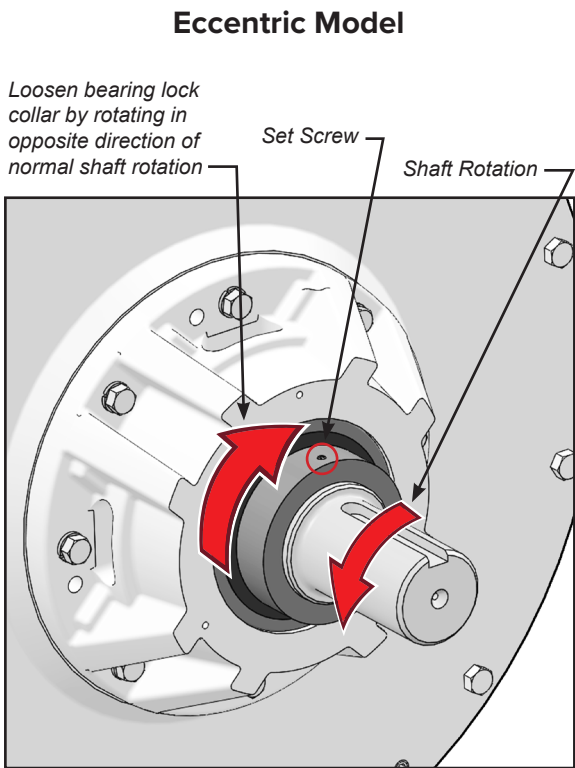
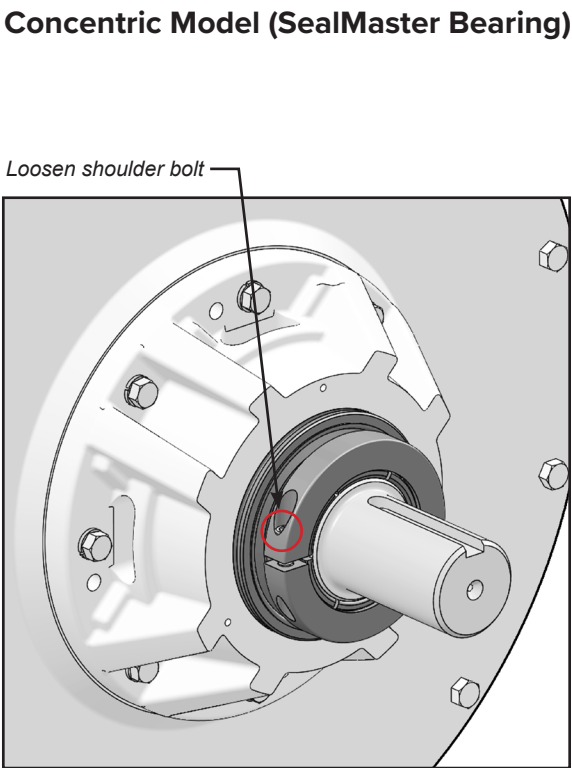

FIGURE 8
FIGURE 9
- 5. Loosen bearing lock collar set screw (Figure 8); *shoulder bolt for VJX 18x12x12 thru 24x20x20 using SealMaster Bearing* (Figure 9).
- 6. Disengage bearing lock collar from bearing by turning it using a punch and hammer. Loosen by rotating the collar in the direction opposite of normal shaft rotation (Figure 8); *not necessary for VJX 18x12x12 thru 24x20x20 using SealMaster Bearing* (Figure 9).
- 29. Lock bearing in place by locking eccentric lock collar in direction of rotation and tighten set screw (Figure 8); *shoulder bolt for VJX 18x12x12 thru 24x20x20 using SealMaster Bearing* (Figure 9).